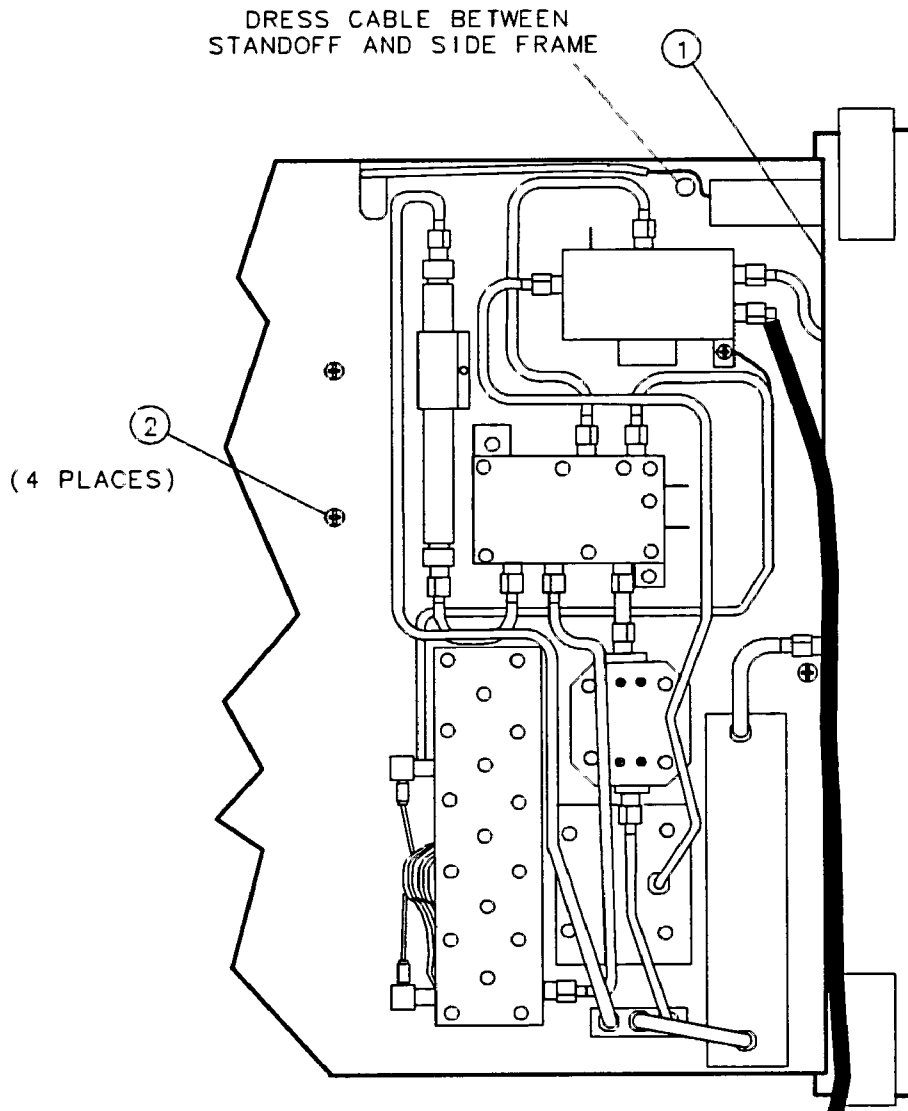

Figure 3-28. Line Switch Mounting Screw and Cable Dress
13. Remove the screw (1) securing W3, the line switch assembly, to the front frame. The screw is captive. See Figure 3-28.